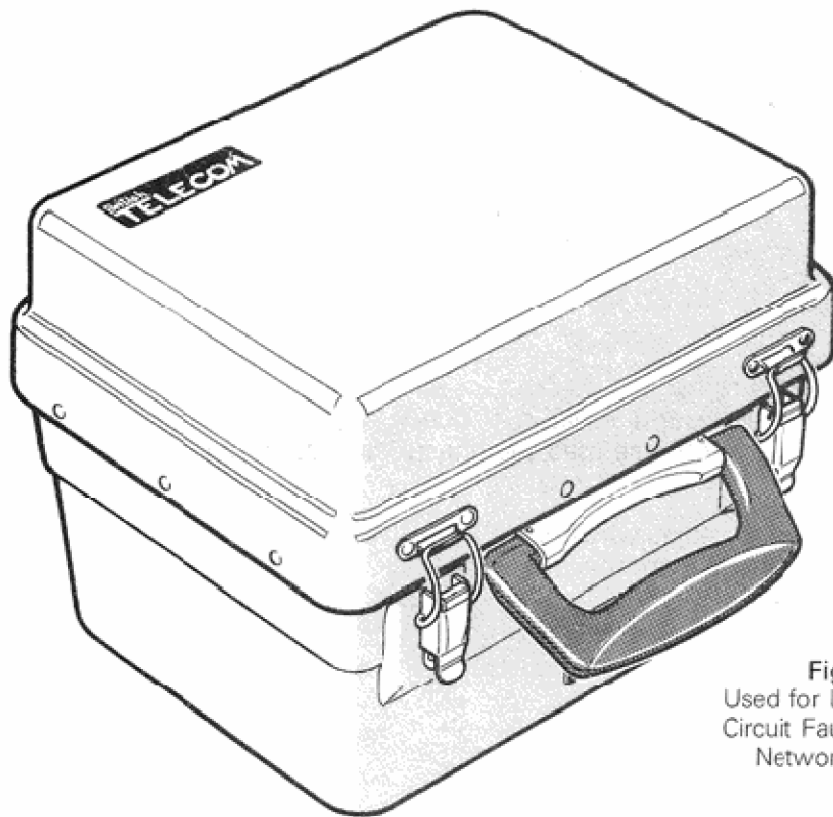

Fig. 1 Tester 301A
1.2 The tester is mounted in a standard instrument case as shown in Fig 1. It is intended to be used for locating the position of 'DIS' and 'S/C' faults in local network cables up to a maximum distance of 1 km. It is not suitable for locating low insulation and battery or earth contact faults for which other equipment should be used.